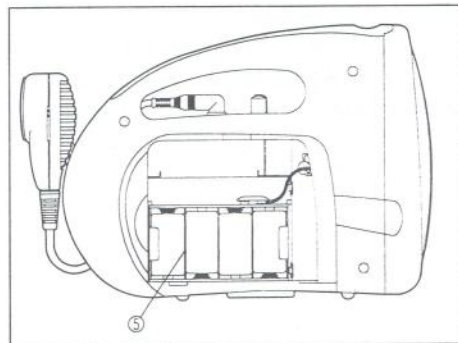

Fig.3
- 3.1.1 BATTERY LOADING : Installing the batteries as per the polarity instruction and getting connected with battery button as shown on Fig.3 then close the battery lid.